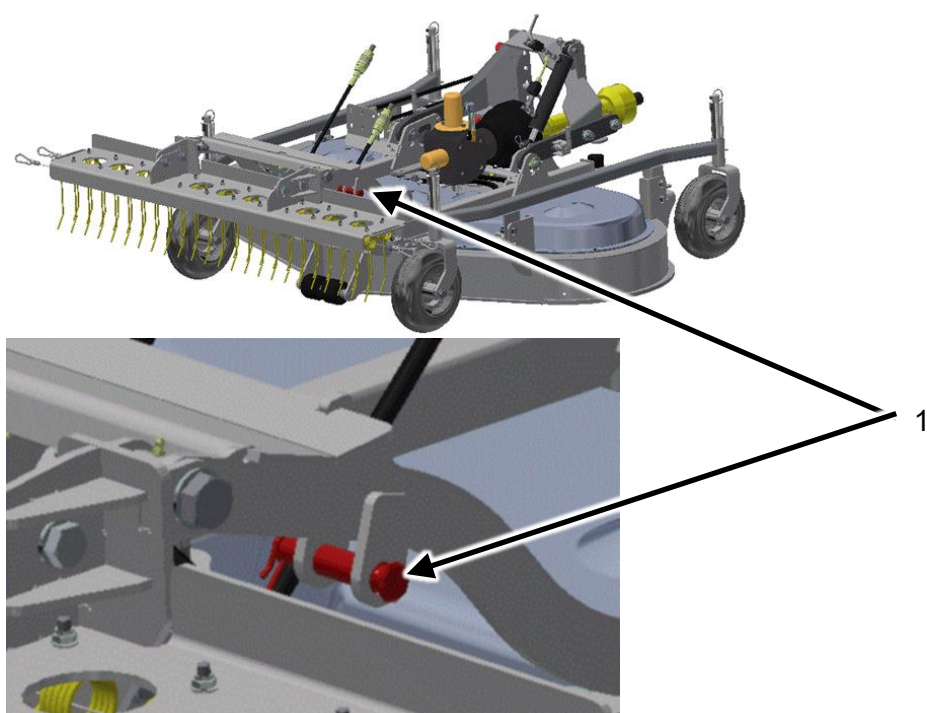

Fig. 39: Harrow position in operation
**The lock bolt must be mounted in work position, as shown in Fig. 39.